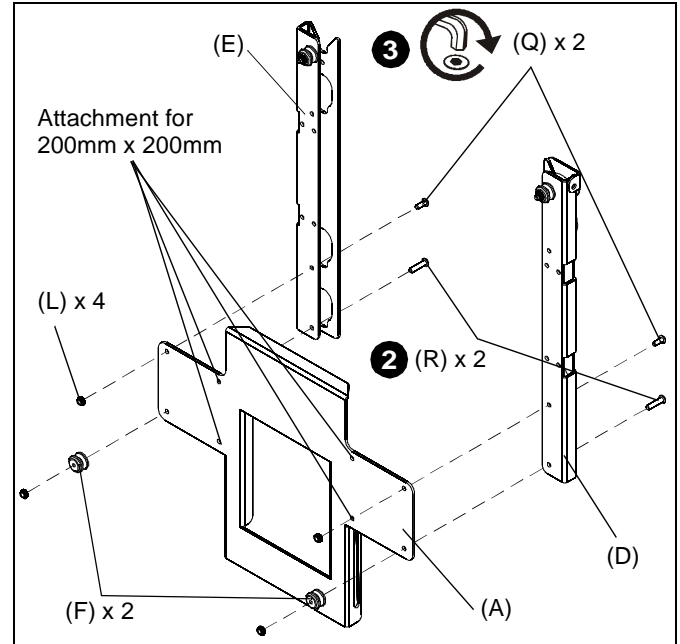

Figure 2
NOTE: The PACCS1 is designed to accommodate both 200mm x 200mm and 14" x 14" Q-latch mounting systems. If a 200mm x 200mm pattern is required, use the inner mounting holes on the shelf bracket (A) when installing the uprights (D and E). (See Figure 2)
2. Assemble two lower mounting buttons (F) to uprights (D and E) and shelf bracket (A) using two 10-24 x 7/8" button head cap screws (R) and two 10-24 lock nuts (L);
3. Complete attachment of uprights (D and E) to shelf bracket (A) using two 10-24 x 1/2" button head cap screws (Q) and two 10-24 lock nuts (L). (See Figure 2)